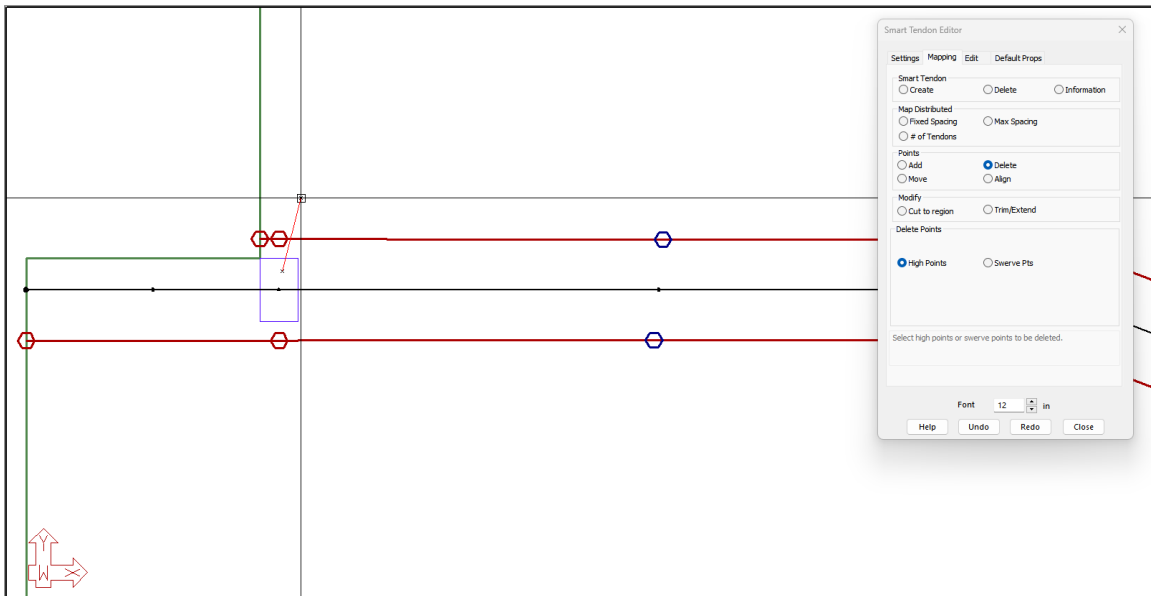

FIGURE 9-49
- Draw the two-point construction line in the second span of the top tendon, closer to the high point we want to delete than the high point on the other side of the span, as shown in **FIGURE 9-49**.